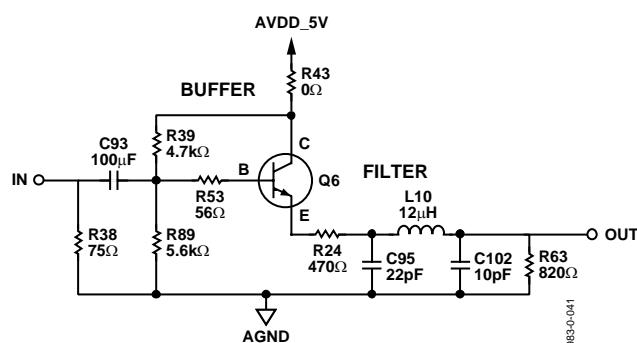

Figure 45. ADI Recommended Anti-Aliasing Circuit for All Input Channels
For inputs from some video sources that are not bandwidth limited, signals outside the video band can alias back into the video band during A/D conversion and appear as noise on the output video. The ADV7189B oversamples the analog inputs by a factor of 4. This 54 MHz sampling frequency reduces the requirement for an input filter; for optimal performance it is recommended that an antialiasing filter be employed. The recommended low cost circuit for implementing this buffer and filter circuit for all analog input signals is shown in Figure 45.
- Place a 1 MΩ shunt resistor across pins XTAL1 and XTAL2 as is shown in Figure 45.
Examples of how to connect the ADV7189B video decoder are shown in Figure 45 and Figure 46. For a detailed schematic diagram for the ADV7189B, refer to the ADV7189B evaluation note.